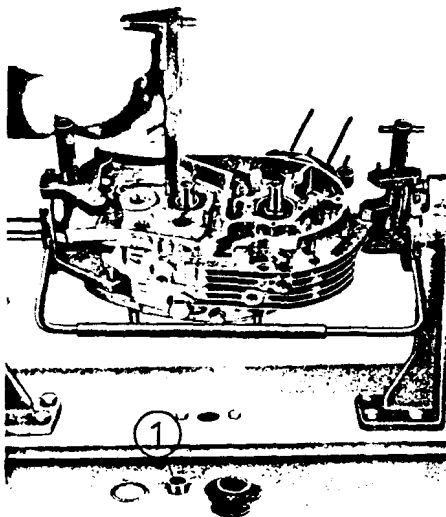

Fig. 48. Aligning the cover plate
Slightly grease the lip of the sealing ring in the cover plate — put on the distance bush [(1) in Fig. 48].